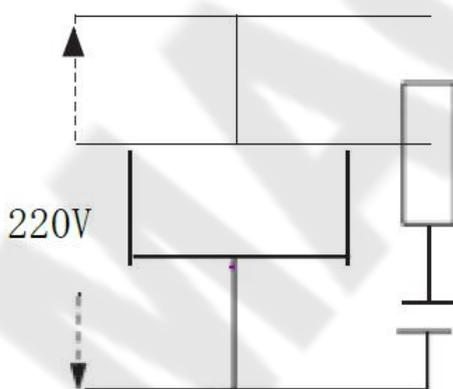
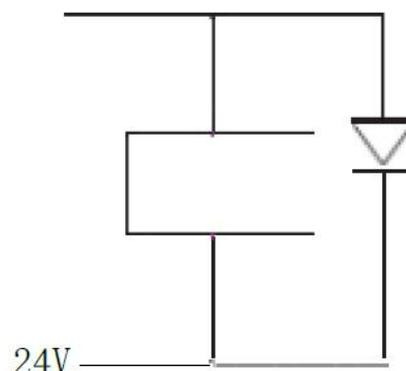
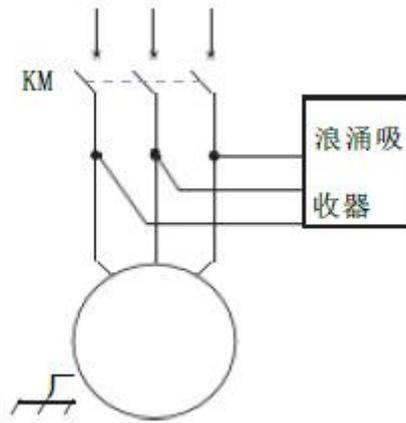

Figure 1-3
Figure 1-4
Figure 1-5
3. Suppress interference: connect an RC circuit in parallel at both ends of the AC coil (as shown in Figure 1-3). The RC circuit should be installed as close to the inductive load as possible; connect a freewheeling diode in reverse parallel at both ends of the DC coil (as shown in Figure 1-4); and connect a surge absorber in parallel at the winding end of the AC motor (as shown in Figure 1-5).